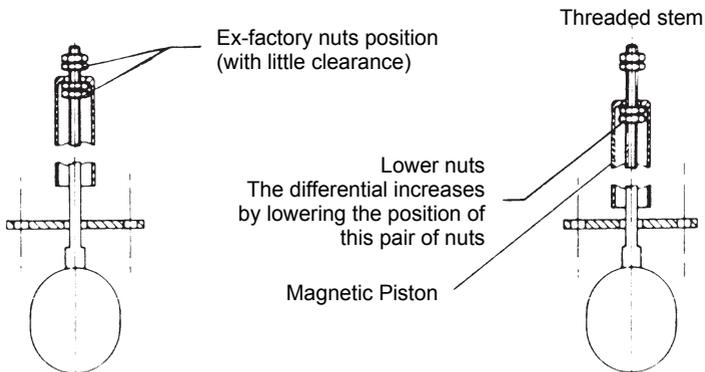

Fig. 5
- 2 - Disassemble the non-magnetic pocket and the whole housing, working on the 41 mm hexagon underneath the base for a direct access to the magnetic piston and to the relevant locking nuts. (fig.5).